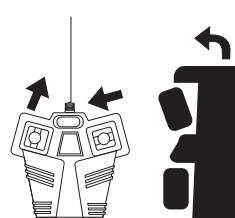

Figure 9
5. Vehicle steering is controlled by joystick on right by moving left or right .See Figure 9.